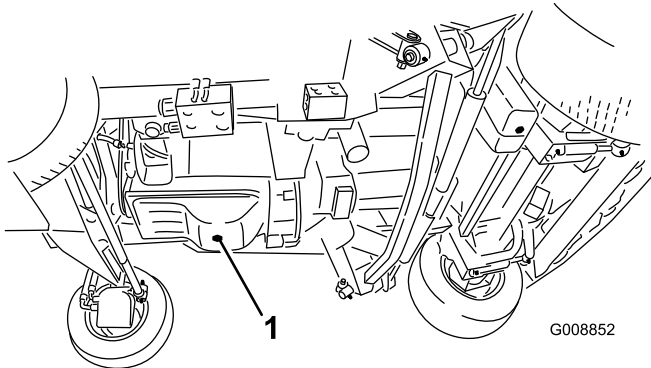

Figure 58
1. Remove the drain plug (Figure 58) and let the oil flow into a drain pan. When the oil stops, install the drain plug.